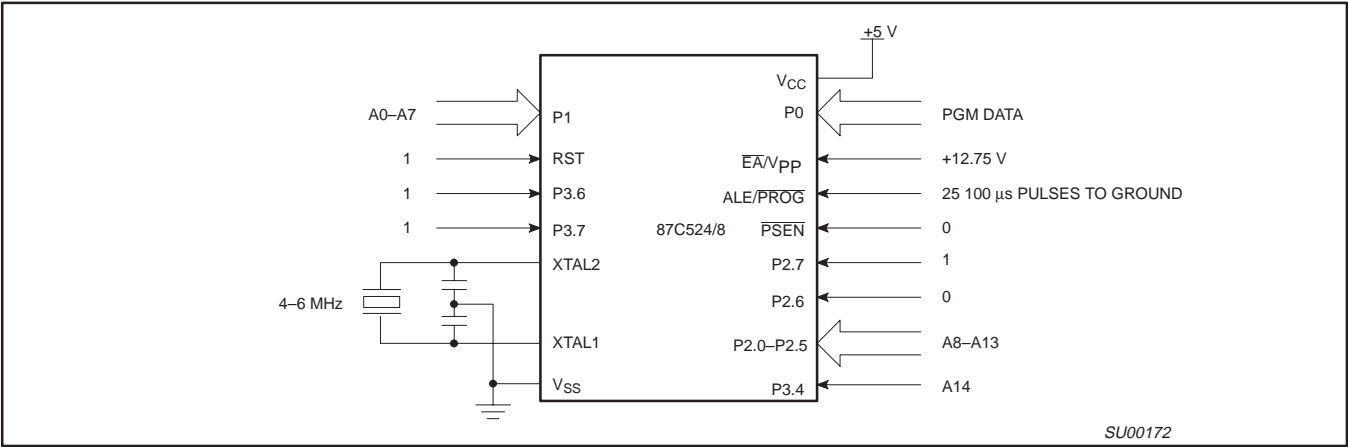
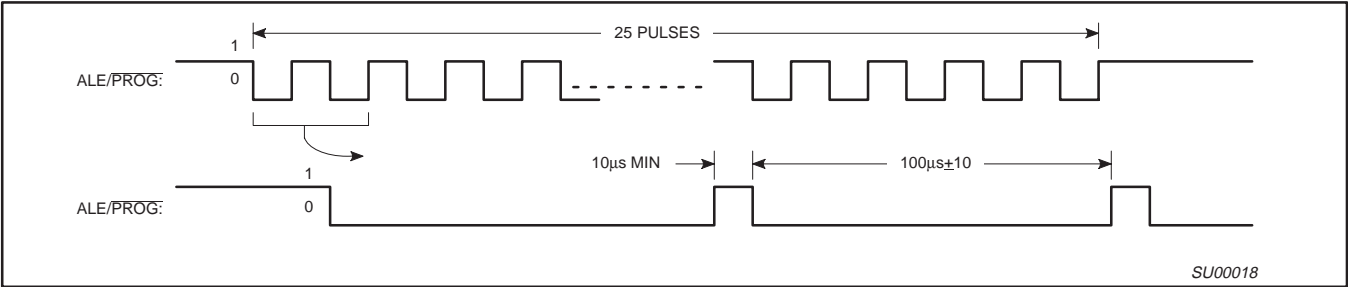
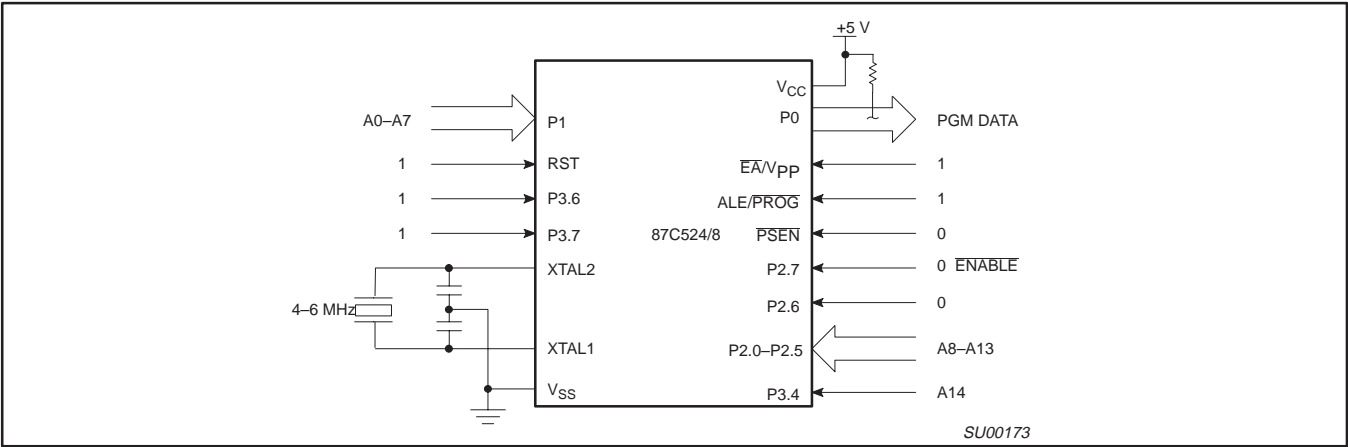

Figure 14. Programming Configuration
Figure 15. PROG Waveform
Figure 16. Program Verification
Table 6 shows the logic levels for reading the signature byte, and for programming the program memory, the encryption table, and the lock bits. The circuit configuration and waveforms for quick-pulse programming are shown in Figures 14 and 15. Figure 16 shows the circuit configuration for normal program memory verification.
The setup for microcontroller quick-pulse programming is shown in Figure 14. Note that the 87C528 is running with a 4 to 6MHz oscillator. The reason the oscillator needs to be running is that the device is executing internal address and program data transfers.
The address of the EPROM location to be programmed is applied to ports 1, 2 and 3, as shown in Figure 14. The code byte to be programmed into that location is applied to port 0. RST,  $\overline{PSEN}$  and pins of ports 2 and 3 specified in Table 6 are held at the 'Program Code Data' levels indicated in Table 6. The ALE/PROG is pulsed low 25 times as shown in Figure 15.
If lock bit 2 has not been programmed, the on-chip program memory can be read out for program verification. The address of the program memory locations to be read is applied to ports 1, 2 and 3 as shown in Figure 16. The other pins are held at the 'Verify Code Data' levels indicated in Table 6. The contents of the address location will be emitted on port 0. External pull ups are required on port 0 for this operation.
The setup for microcontroller quick-pulse programming is shown in Figure 14. Note that the 87C524 is running with a 4 to 6 MHz oscillator. The reason the oscillator needs to be running is that the device is executing internal address and program data transfers.
The address of the EPROM location to be programmed is applied to ports 1, 2 and 3, as shown in Figure 14. The code byte to be programmed into that location is applied to port 0. RST,  $\overline{\text{PSEN}}$  and pins of ports 2 and 3 specified in Table 6 are held at the 'Program Code Data' levels indicated in Table 6. The ALE/PROG is pulsed low 25 times as shown in Figure 15.
in Figure 16. The other pins are held at the 'Verify Code Data' levels indicated in Table 6. The contents of the address location will be emitted on port 0. External pull-ups are required on port 0 for this operation.
- \* FOR PROGRAMMING VERIFICATION SEE FIGURE 14.
- FOR VERIFICATION CONDITIONS SEE FIGURE 16.